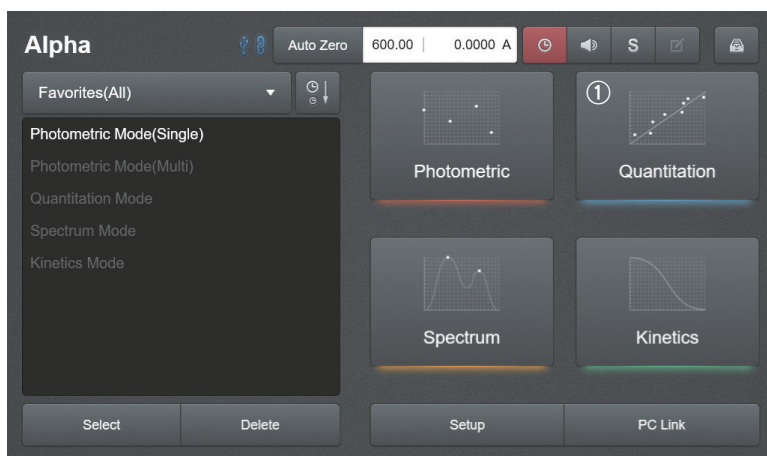

Fig. 4.12
1. [Fig. 4.12] Select ① **Quantitation Mode** on the main screen.